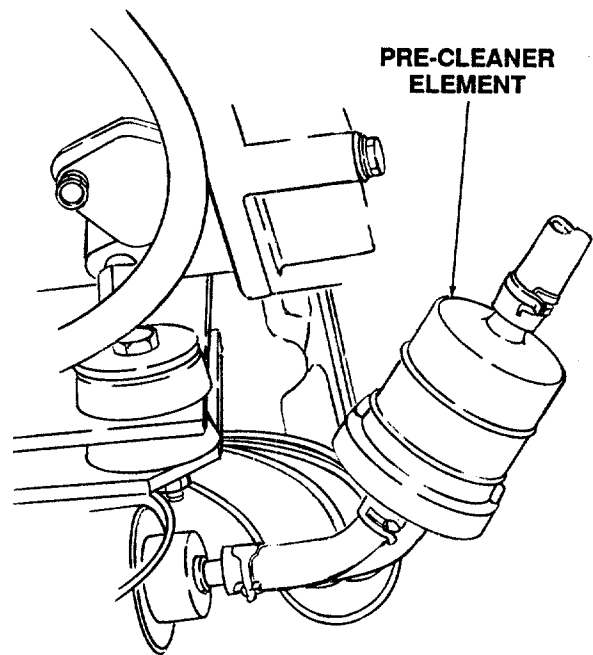

Figure 37
2. Remove the top and bottom hose clamps and remove and discard the pre-cleaner element. (See Figure 37.)